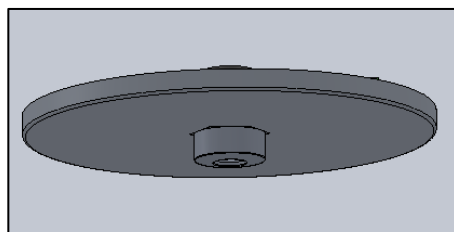

FIG.3 CANOPY SUBASSEMBLY
3. CANOPY SUBASSEMBLY (as shown in FIG. 3)